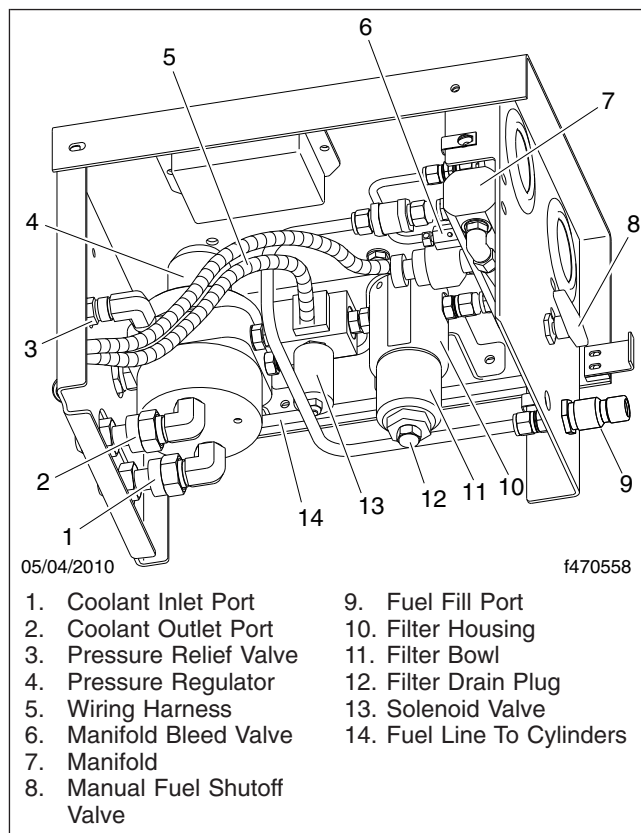

Fig. 21.17, CNG Fuel Panel Components
- 2.4 Slowly open the bleed valve on the manifold to relieve remaining fuel pressure within the system. See **Fig. 21.17**.